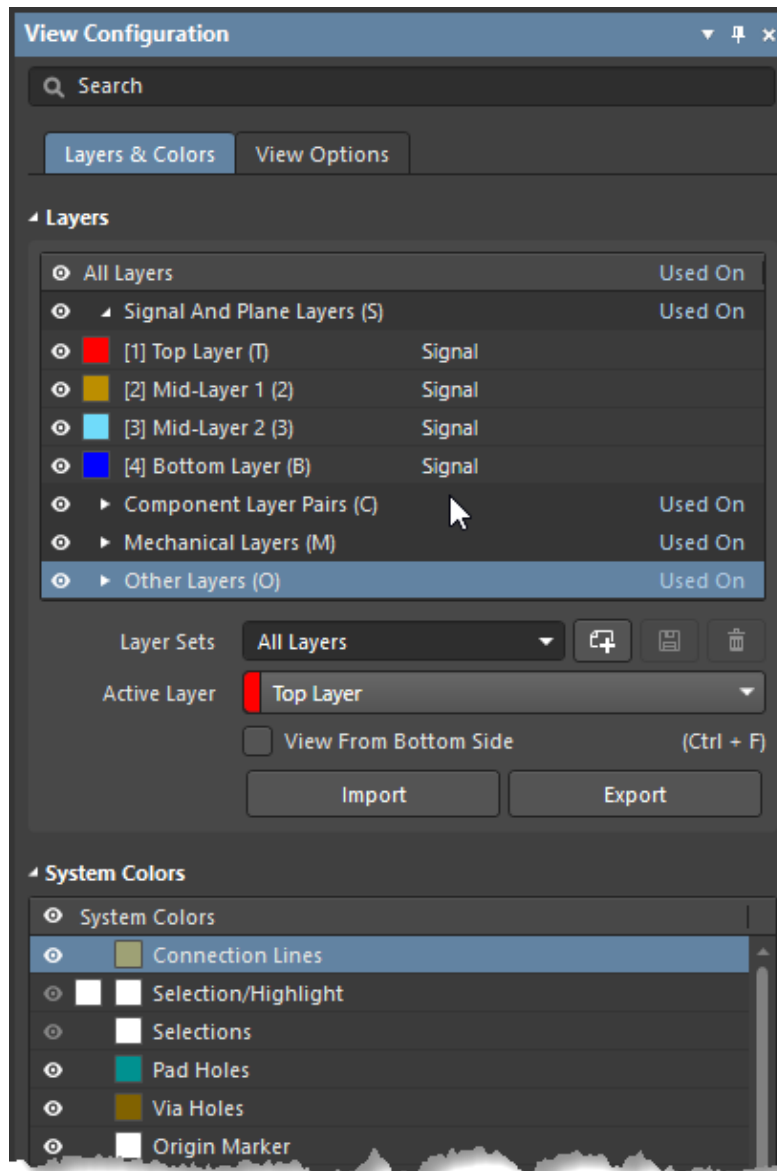

Figure 10. View Configuration panel
- a) The *View Configuration* panel will open, and the *Layer & Colors* tab will appear as shown in Figure 10 below.